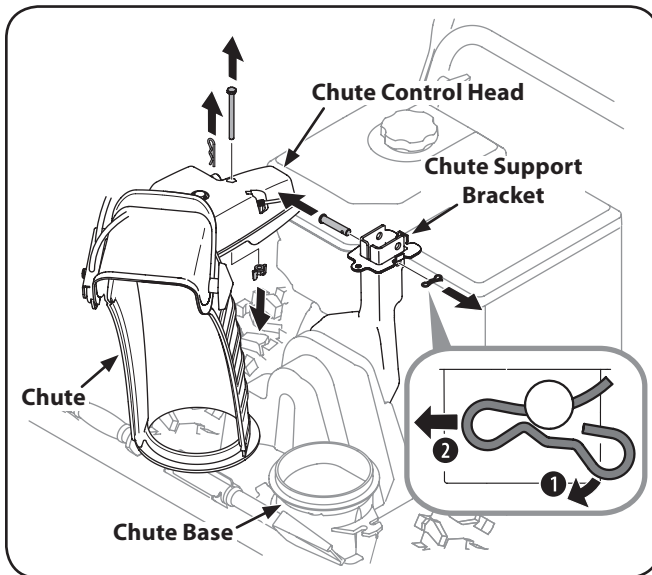

Figure 3-3
1. Remove hairpin clip, wing nut and hex screw from chute control head and clevis pin and bow-tie cotter pin from chute support bracket. See Figure 3-3.